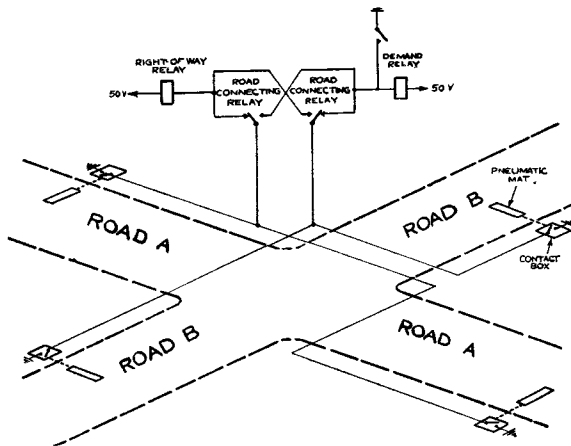

Fig. 11 — CIRCUIT ELEMENTS OF THE DETECTOR SYSTEM.
An explanatory diagram showing the detector system is given in Fig. 11. The road connecting relay (RC) is associated with the lamp control relay (LC) as explained later, and these two relays ensure the correct phasing of the signal lamps and road relays.